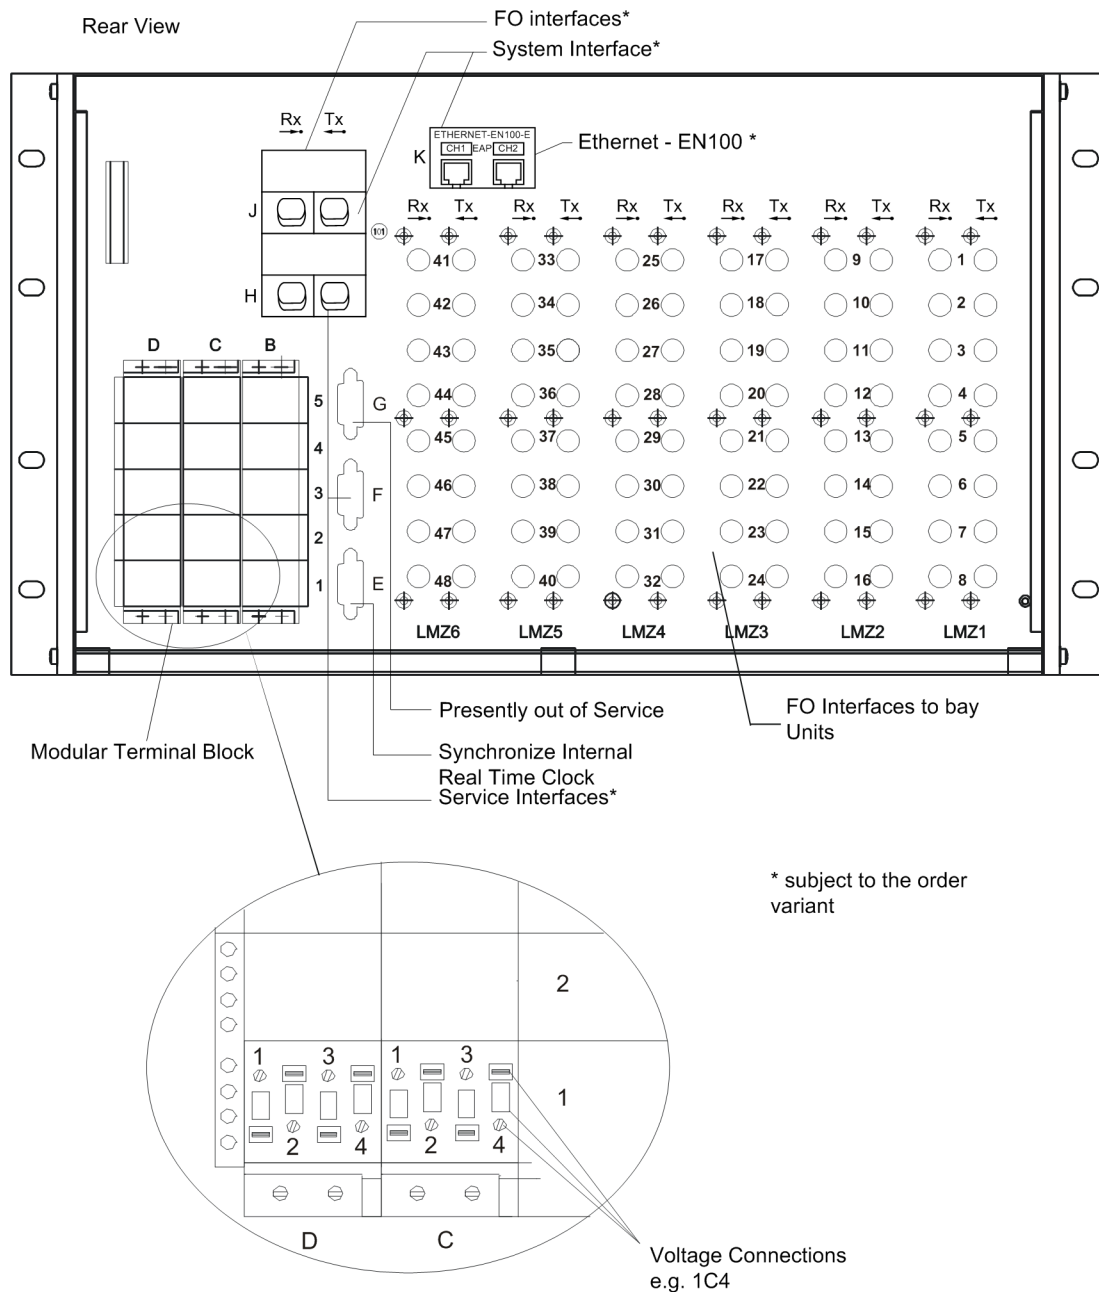

Figure 2-6 Device connections on central unit
| Terminal blocks          | <p>On the rear side of the central unit, terminal blocks are provided for the external electrical connection of the power supply module (SV), the I/O module (EAZ) and the communication module (D-CPU). For each electrical connection point, there is one screw-type and one snap-in connector for the station wiring. The terminal blocks are identified according to their position in a coordinate system. The connections inside a block are numbered from left to right, see the example in Figure 2-6, page 42.</p>   |
| Central unit      | <p>Depending on the variant ordered, the service and the system port on the rear of the central unit may have additional fiber-optic connections (Figure 2-6, page 42).</p> <p>Moreover, the central unit is connected with the bay units by fiber-optic cables. The bay unit connectors are located on the back of the central unit (Figure 2-6, page 42).</p> |                               |